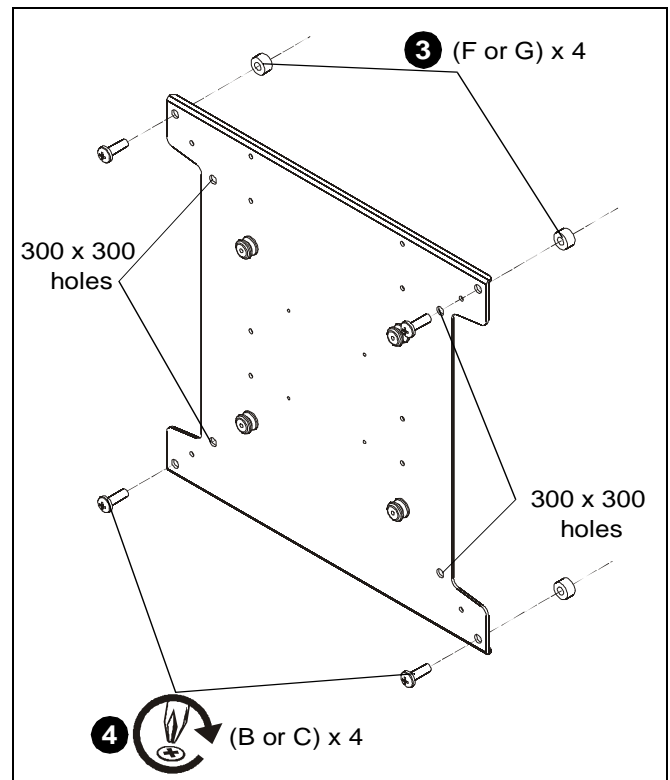

Figure 2
4. Use four Phillips pan machine screws (B or C) to secure interface bracket (A) to display. (See Figure 2)
NOTE: Use interior mounting holes for 300x300 mounting patterns. (See Figure 2)
3. Place four spacers (F or G) over mounting holes on back of display. (See Figure 2)